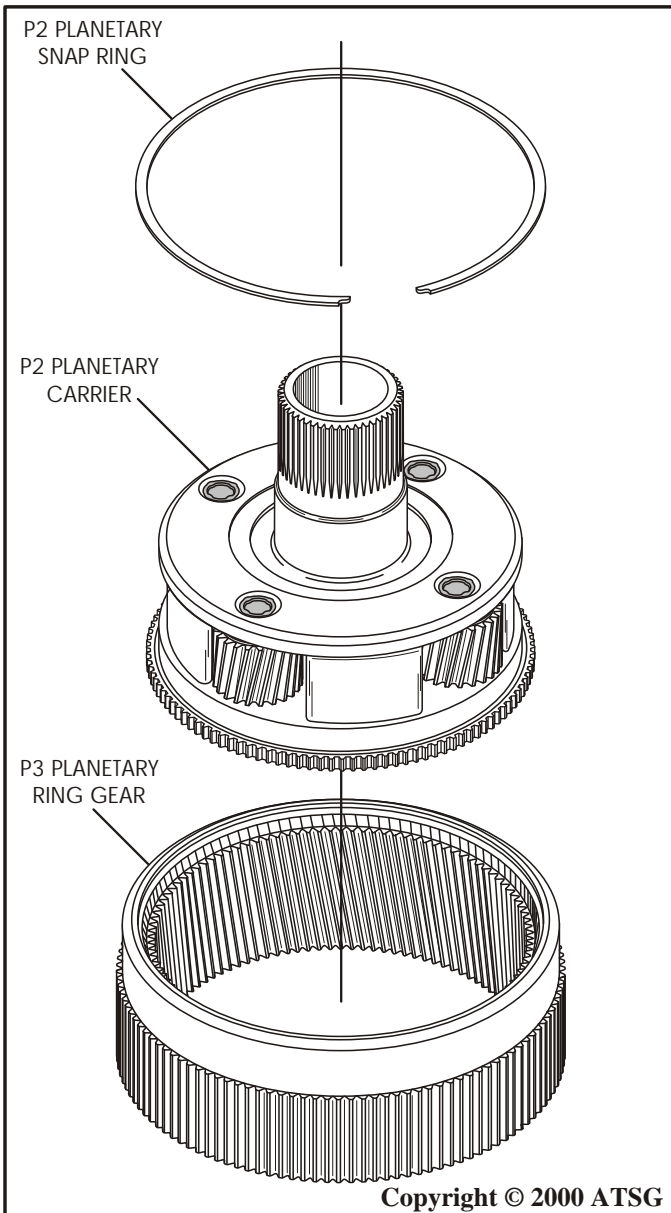

Figure 144
7. Lay the P3 ring gear (no notches) on the flat work surface in direction shown in Figure 144.
8. Install the P2 planetary carrier into the splines of the P3 ring gear, and install the P2 planetary snap ring, as shown in Figure 144.